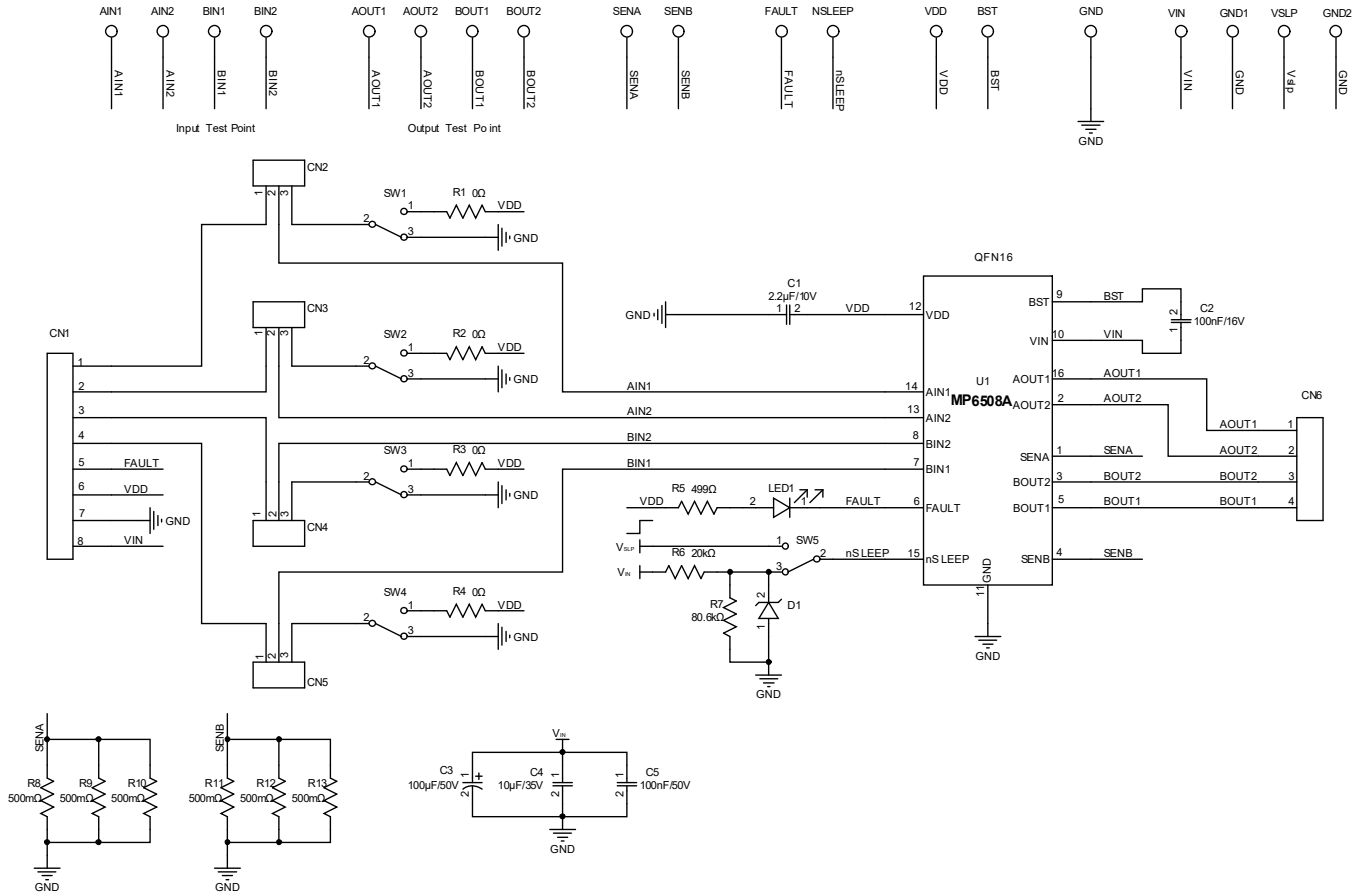

Figure 1: Evaluation Board Schematic
1. The MP6508A's power and control signals are applied through the connector CN1. Each pin in CN1 is labeled on the evaluation board (see Figure 1 on page 3). CN1 also outputs the FAULT signal and the 5V VDD voltage (V_{DD}) from the IC.
3. Connect CN6 to the motor winding terminals. Each pin in CN6 is labeled on the evaluation board as AOUT1, AOUT2, BOUT1, and BOUT2 (see Figure 1). The polarity of these connections affect the DC motor direction. For a stepper motor, connect one winding to AOUT1 and AOUT2, then connect the other winding to BOUT1 and BOUT2.
4. If SW5 is switched to Terminal 3 on the top side, the nSLEEP pin is pulled up to the input voltage (V_{IN}) via a resistor divider. This ensures that the MP6508A does not enter sleep mode. If sleep mode is controlled externally, then switch SW5 to Terminal 1 on the bottom side, and directly connect the nSLEEP control signal from the external controller to the VSLP terminal (see Figure 1 on page 3).